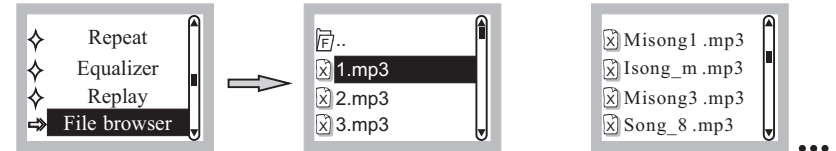

Fig. 15
- (I) File Browser Mode: Press PLAY/PAUSE ⏸ to enter track directory. Press PRV/TEN ◀◀ or NEXT/ TEN ▶▶ to select the desired song. Press PLAY/PAUSE to play the song tracks, Fig. 15.